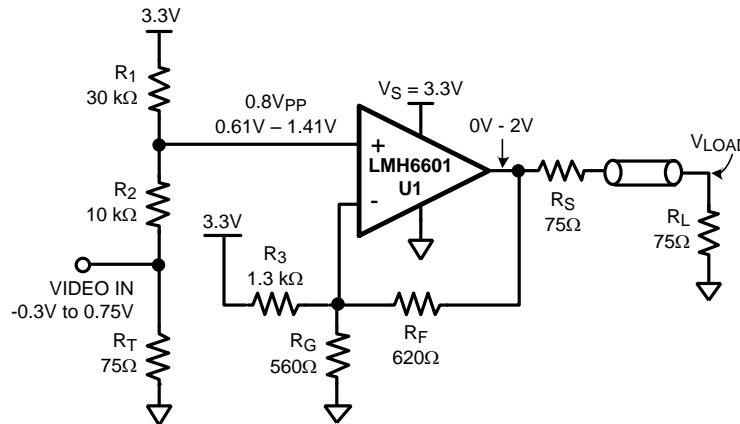

Figure 54. Single Supply DC Coupled Composite Video Driver for Negative Going Sync Tip
If the “Video In” signal is Composite Video with negative going Sync tip, a variation of the previous configurations should be used. This circuit produces a unipolar (above 0V) DC coupled single supply video signal as shown in Figure 54.
In the circuit of Figure 54, the input is shifted positive by means of  $R_1$ ,  $R_2$ , and  $R_T$  in order to satisfy U1’s Common Mode input range. The signal will lose 20% of its amplitude in the process. The closed loop gain of U1 will need to be set to make up for this 20% loss in amplitude. This gives rise to the gain expression shown below which is based on getting a  $2 V_{PP}$  output with a  $0.8 V_{PP}$  input:
**Table 1. Finding Figure 54 External Resistor Values by Iteration**